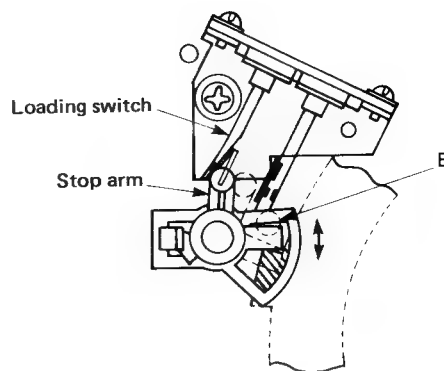

Figure 65.
4. As shown in Fig. 65, check that the stop arm is in contact with the loading switch which is thus turned on.